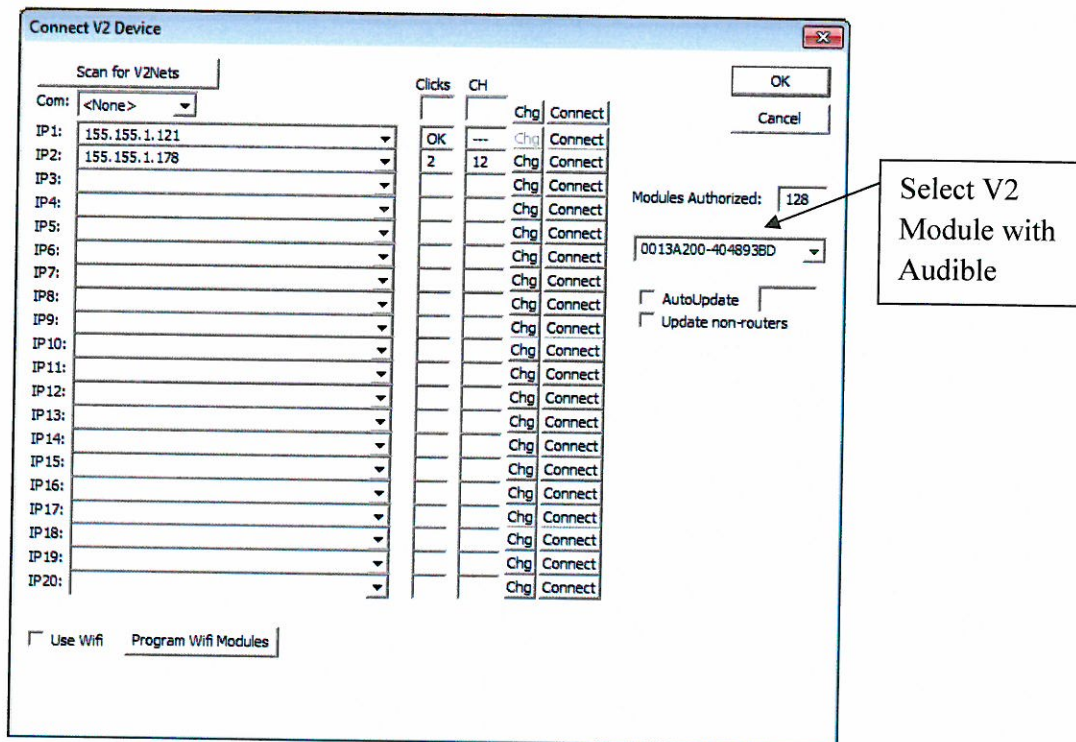

Figure 12.
1. Select the module that contains the audible alarm from the drop down box as indicated in Figure 12.